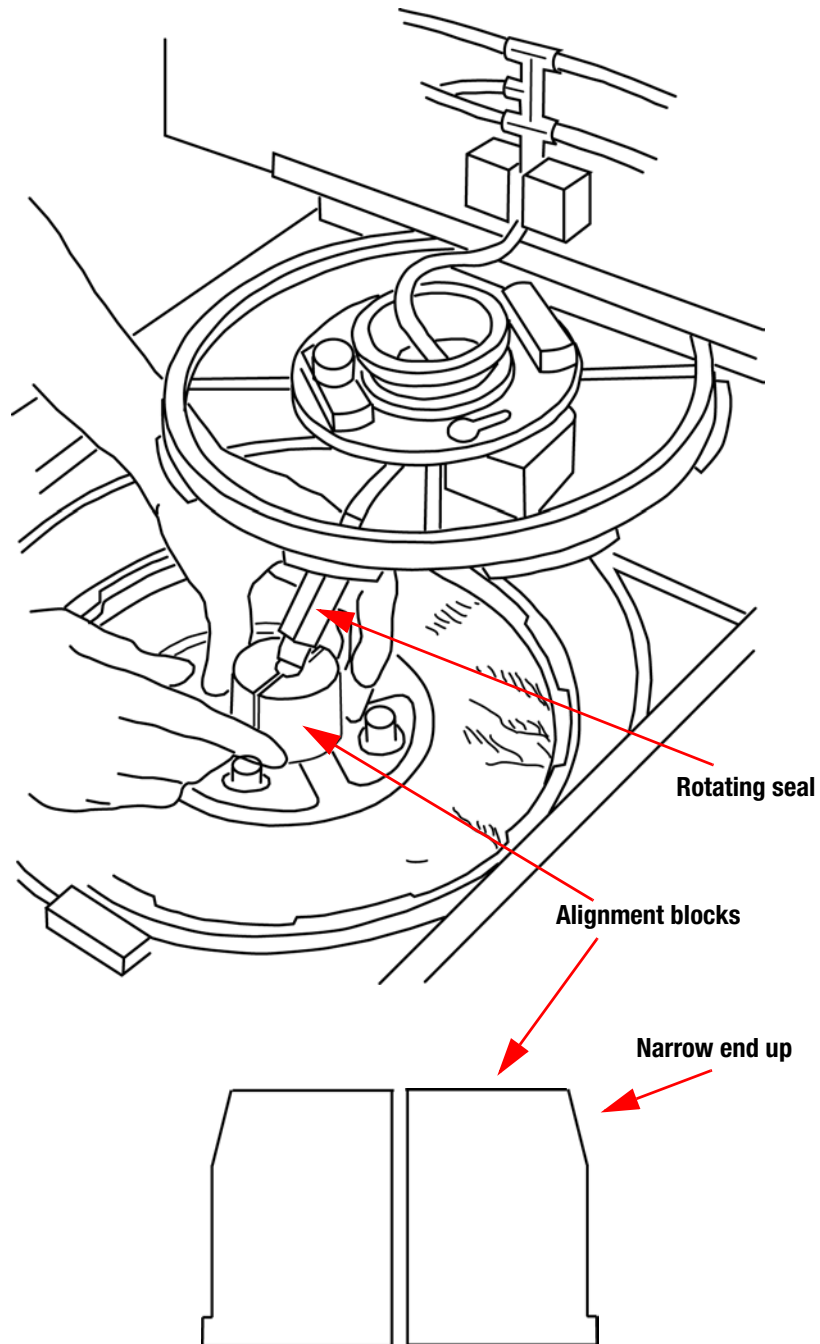

Figure 6-9: Installing the alignment blocks
- 23** Position the two white alignment blocks around the center stem of the cell processing bag to support the rotating seal (Figure 6-9). Orient the alignment blocks so that the narrow end of the blocks is pointing up.